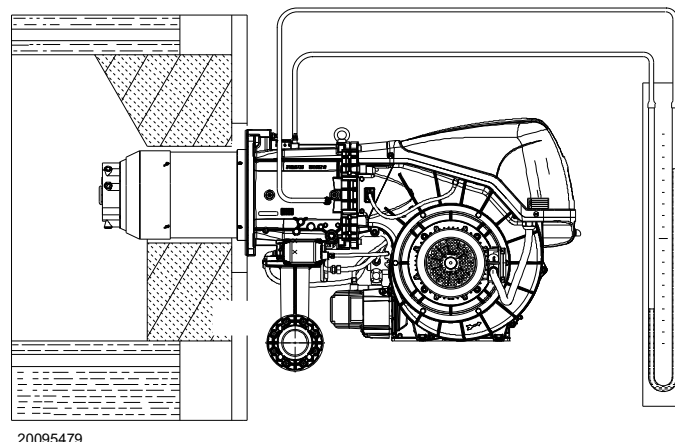

Fig. 30
- Fit a U-type pressure gauge or a differential pressure gauge (Fig. 30), with socket (+) on the gas pressure of the pipe coupling and (-) in the combustion chamber.
The arrival of gas at the sleeve is indicated by the U-type manometer (Fig. 30).